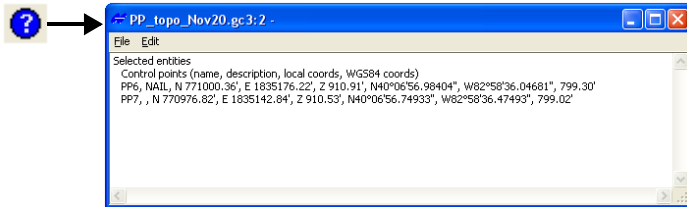

Figure 2-9. Information on Selected Entities
2. Press the activated **information** button (Figure 2-9 on page 2-7) on the toolbar.
A text file opens, to display information on the selected control points (Figure 2-9). Any modification of this text file has no affect on the values stored in the control file.